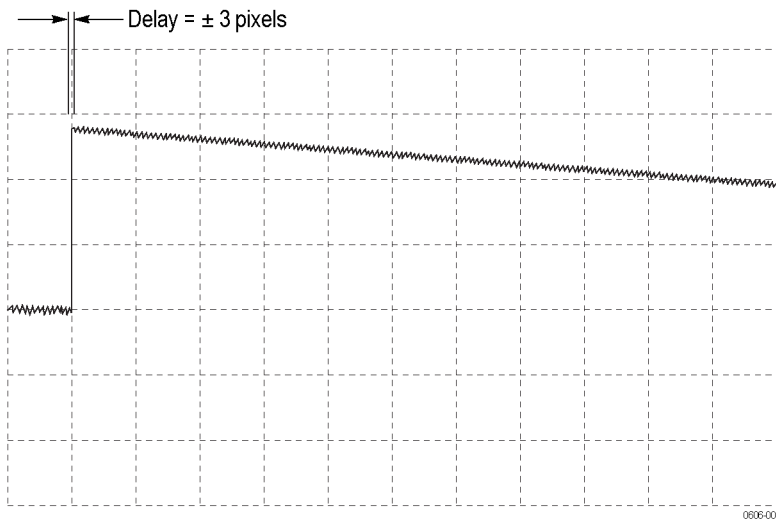

Figure 7: Allowable variance in time base
- Examine the rising edge of the time marker pulse at the height of the trigger level indicator top. (You may need to adjust the horizontal position to view the pulse edge.) Verify that the rising edge is at the second grid line from the left. The allowed deviation is ± 3 pixels. (See Figure 7 on page 14.)